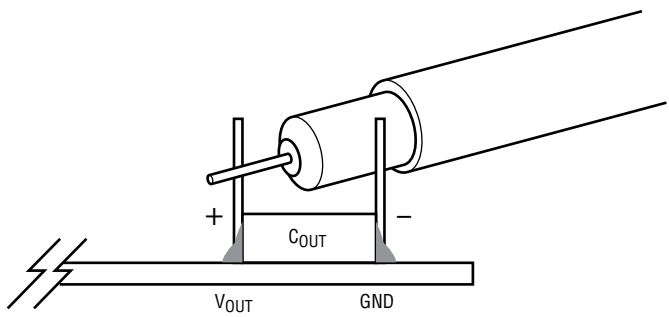

Figure 2. Scope Probe Placements for Measuring Input or Output Ripple
7. Once the input and output voltages are properly established adjust the loads within the operating range (0A to 1A max) and observe the output voltage regulations, output ripple voltages, switch node wave-forms and other parameters. Refer to Figure 2 for proper input/output voltage ripple measurement.
Note 1: To measure the input/output voltage ripple properly, do not use the long ground lead on the oscilloscope probe. See Figure 2 for the proper scope probe technique. Short, stiff leads need to be soldered to the (+) and (–) terminals of an output capacitor. The probe's ground ring needs to touch the (–) lead and the probe tip needs to touch the (+) lead.